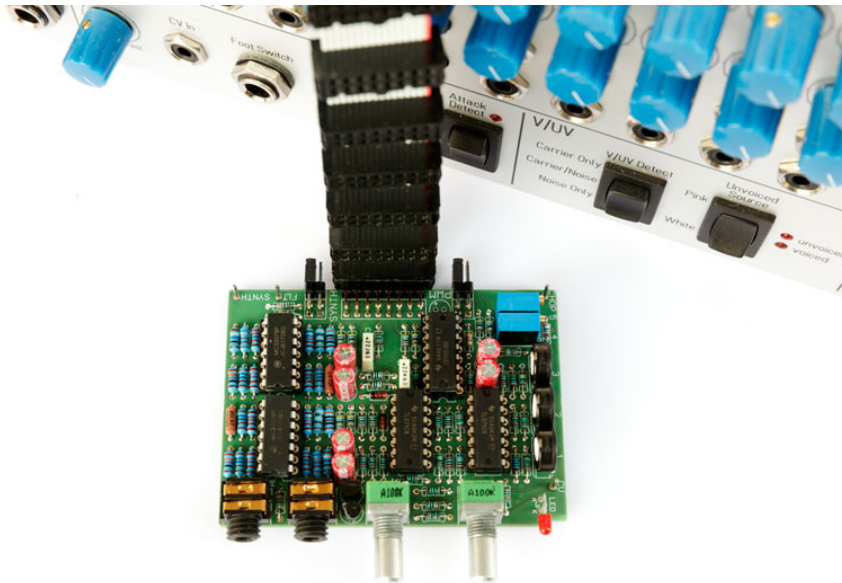

Fig. 35: Temporary setup of the channel filter board for calibration purposes.
1. Connect one end of the 16-wire ribbon cable to the output board. Connect the other end to the filter channel board. Make sure the board header is inserted into the ribbon cable with proper orientation (Fig. 35).